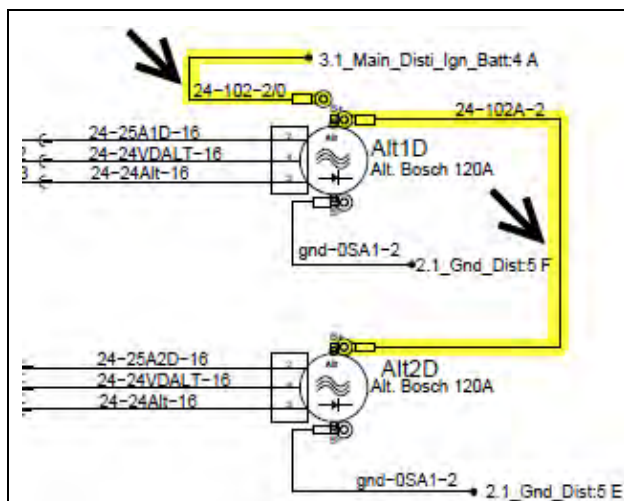

Figure 1 – R.H. SIDE ALTERNATORS (2x BOSCH)
- On the **alternators positive (+) stud terminal** and from there, up to junction block in the electrical compartment (Figure 1 to Figure 5).